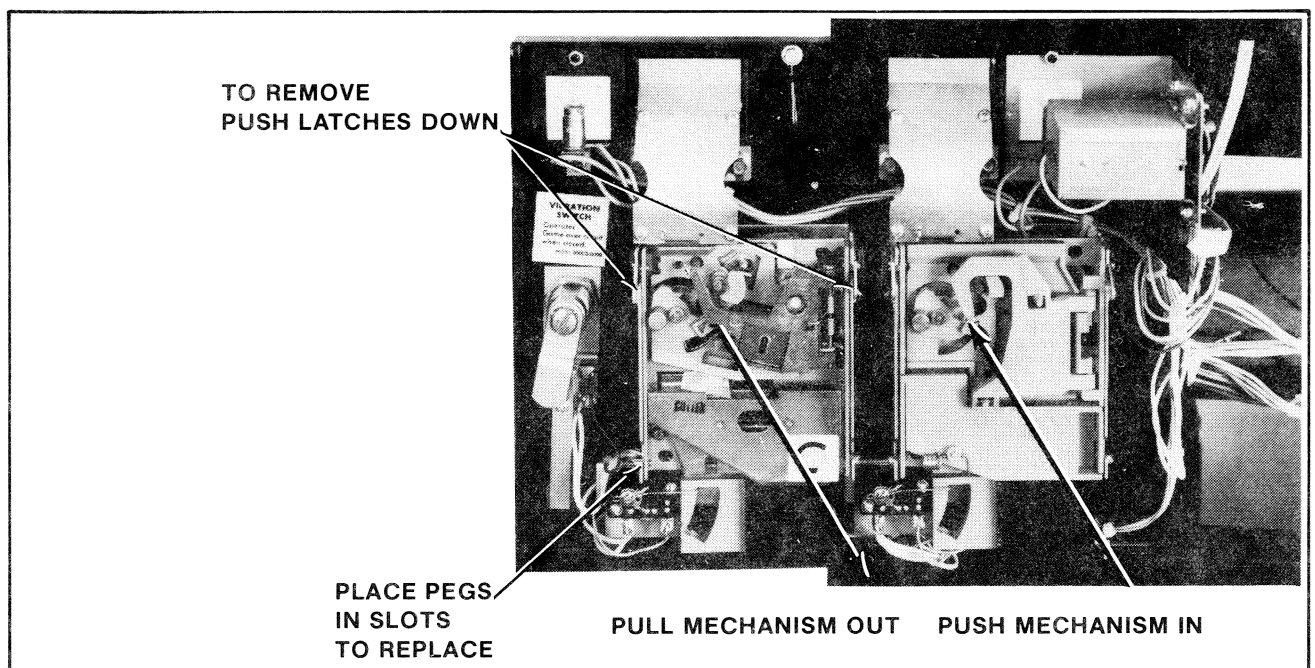

Figure 25 Removing and replacing coin acceptor
3. Remove the coin acceptor mechanism as shown in Figure 25.
9. Reinstall the coin acceptor to the coin door. See Figure 25.
3. Remove the coin acceptor mechanism(s) as shown in Figure 25.
6. Reinstall the coin acceptor to the coin door. See Figure 25.